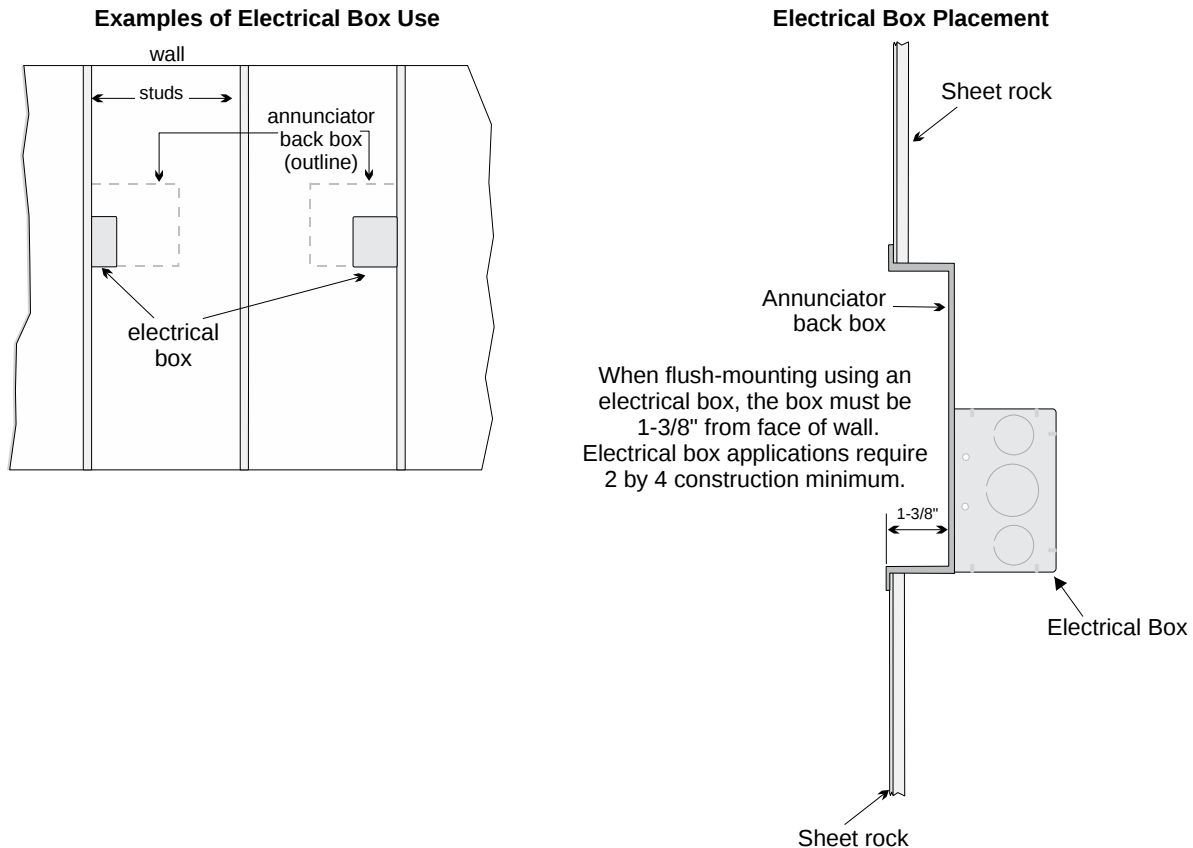

Figure 4-12 Placement of Electrical Box for Flush Mounting
1. Cut a hole in the sheet rock to the following dimensions: 8¹/₄" W x 6-5/8" H. If an electrical box is used, the box must be 1-3/8" back from face of wall to accommodate the annunciator (see Figure 4-12).